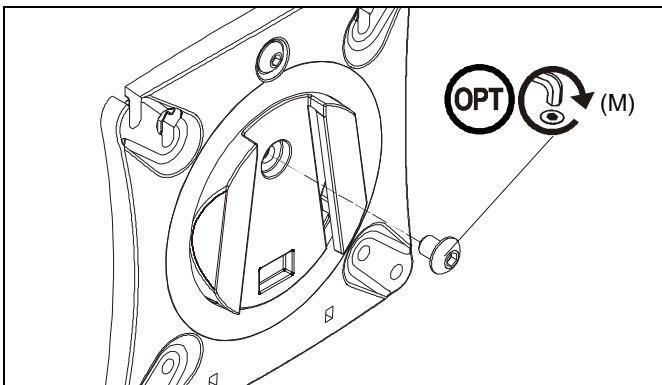

Figure 7
NOTE: (Optional) Rotational adjustment may be locked by installing rotational locking screw (M) into back of faceplate. (See Figure 7)